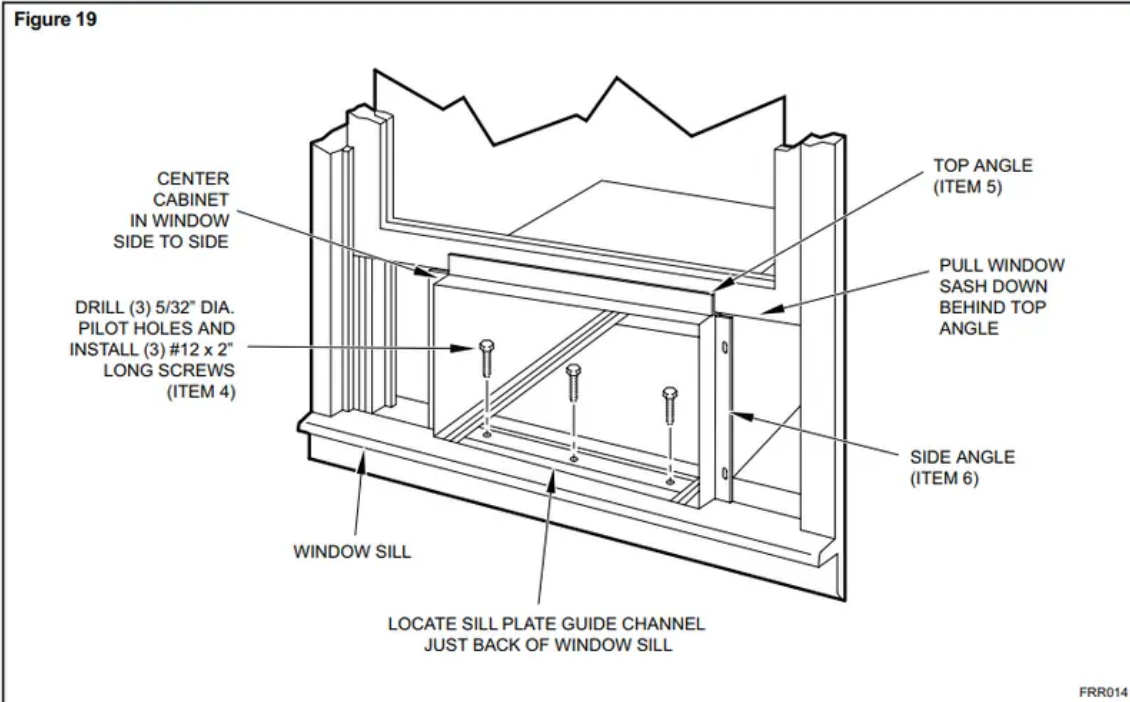
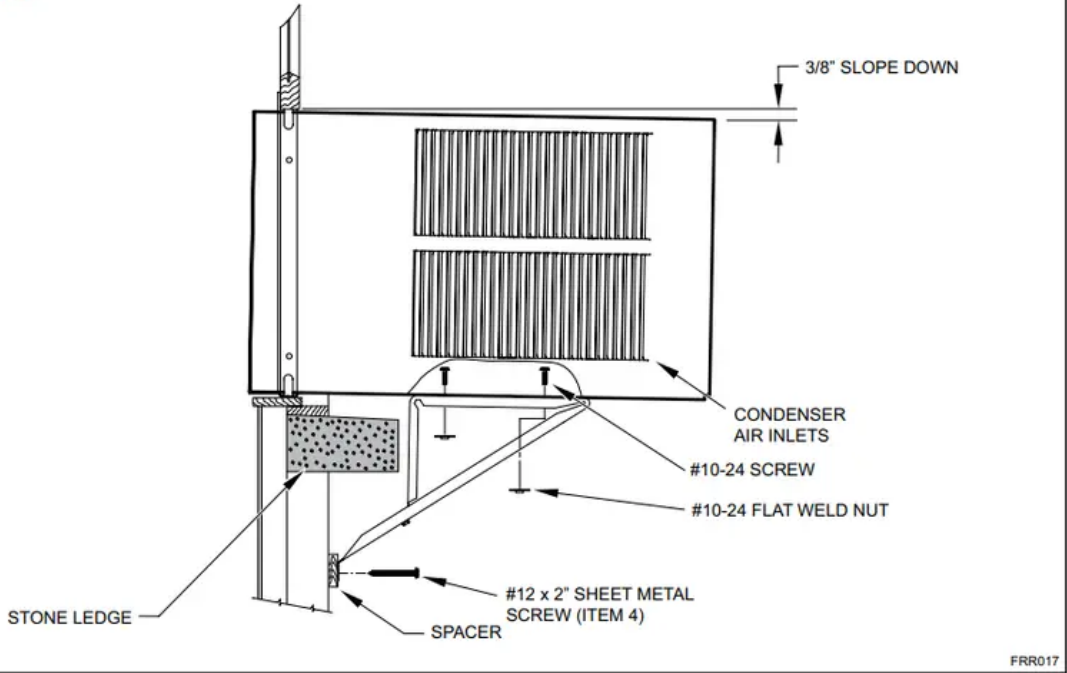

Figure 20
Figure 23
OUTSIDE SUPPORT MOUNTING – Refer to Figures 20 and 21. Assemble the support brackets (Item 1) to the bottom of the cabinet with four (4) 10-24 1" long screws (Item 2) and four 10-24 flat nuts (item 3). Adjust the support brackets, using a combinations of the elongated holes of the bracket and different hole locations in the cabinet, to bring the bottom support bracket pads in contact with the wall. A 1" x 4" or 2" x 4" SPACER SHOULD BE USED BETWEEN THE WALL AND SUPPORT THE BRACKETS WHEN INSTALLED ON ALUMINUM OR VINYL SIDING. Drill 5/32" diameter pilot holes and secure the brackets to the wall with two (2) 12A x 2" long screws (Item 4)
Adjust the support brackets to provide an inside-to-outside slope for excess condensation drainage (Refer to Standard Window Installation, Figures 20 through 24). Tighten all screws. Alternate support method A: If you have a wide window sill which prevents you from mounting the brackets as shown in Figure 23. try the following:
Using the elongated holes and different hole locations in the cabinet. set the placement of the bracket to support the unit's weight (Figure 23).